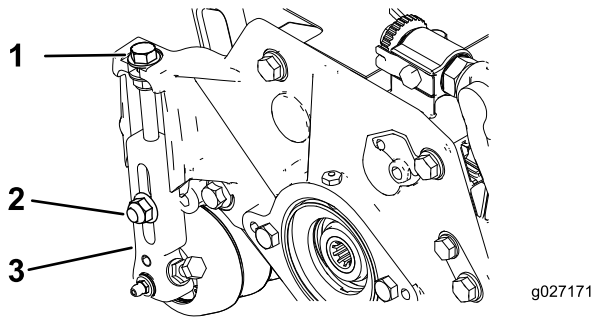

Figure 15
1. Loosen the locknuts securing the height-of-cut arms to the cutting unit side plates (Figure 15).